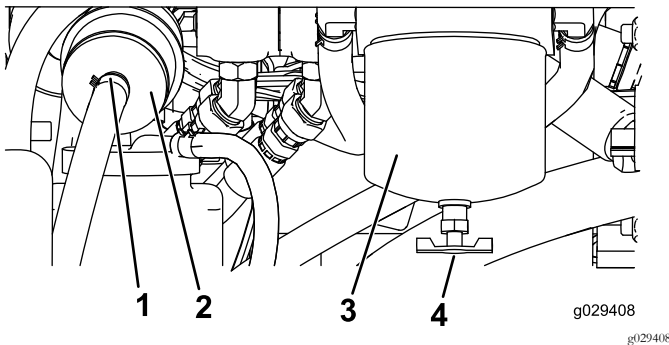

Figure 49
4. Locate the fuel filter on the rear side of the engine (Figure 49) and place a clean container under it.
4. Locate the fuel filters on the right side of the engine (Figure 49) and place a clean container under it.
5. Clean the area where the filter canister mounts (Figure 49).
6. Remove the filter canister and clean the mounting surface (Figure 49).
9. Install the filter canister by hand until the gasket contacts the mounting surface, then rotate it an additional 1/2 turn (Figure 49).
10. Locate the in-line filter to the left of the fuel filter canister (Figure 49) and note the direction of flow arrow on the side of the in-line filter.
11. Open the clamps on each end of the in-line filter and slide the hoses off it (Figure 49). Discard the filter.
12. Slide the hoses over the end of a new filter (Figure 49), ensuring that the arrow on the filter is pointing toward the engine or electric fuel pump.